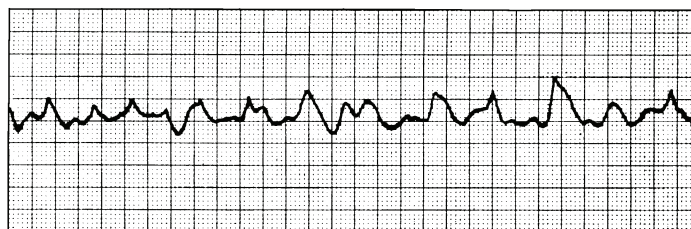

Figure 3-3. Ventricular fibrillation
- (a) Ventricular Fibrillation. V-Fib is an irregular and chaotic ventricular arrhythmia characterized by a rapid rate and disorganized conduction of impulses throughout the ventricular myocardium. Death will occur within minutes without immediate defibrillation or initiation of cardiopulmonary resuscitation (CPR). Refer to Figure 3-3.